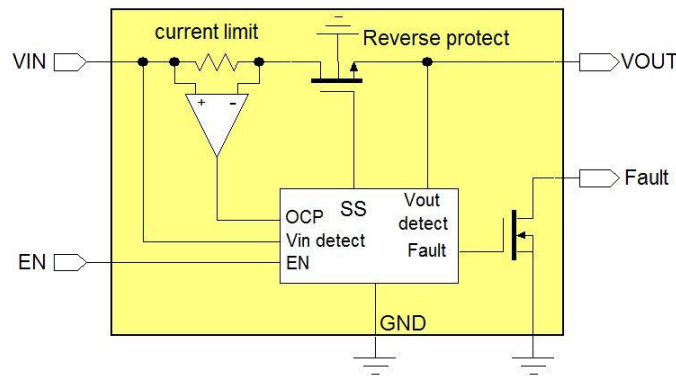

Figure 7. Power switch with various protection functions
**Power switches** can be used to enable and disable power rails. The basic circuit is shown in Figure 7. The EN pin is used to activate the pass element which is usually a MOSFET with a special well construction to eliminate reverse current flow via the body diode. A current limit circuit will open the switch when output current exceeds the current limit threshold. The FAULT pin will be pulled low in case any of the protection functions is activated, and can be used to signal the system that a fault condition has been encountered. Power switches are often used to protect USB ports, which have specific maximum current requirements and must be short-circuit proof. The main selection criteria for power switches is the current limit level, which can either be fixed or adjustable.